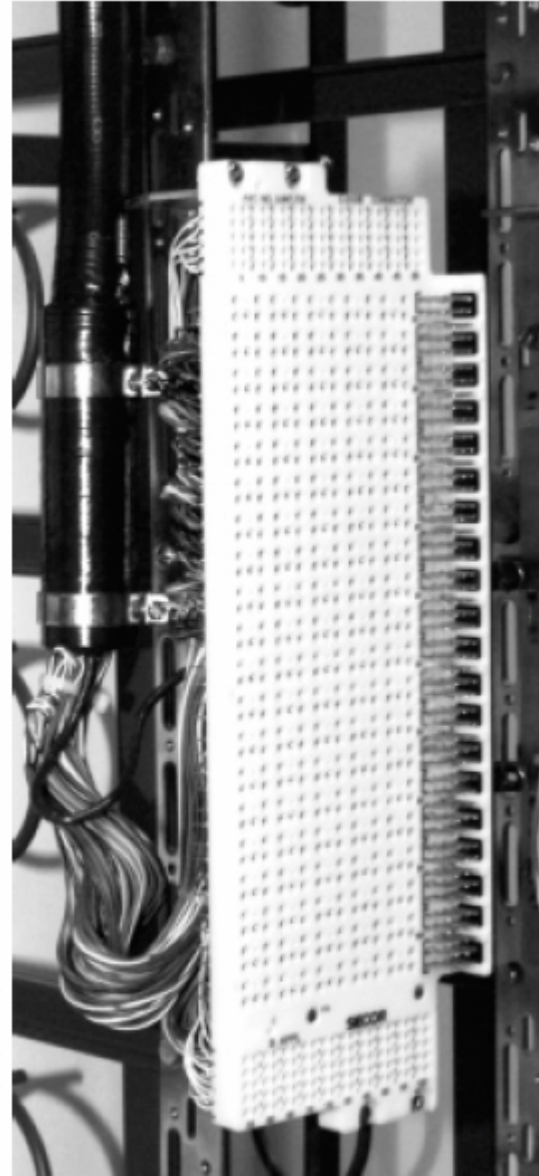

Figure 6 — Positioning Cable Stub
5.6 The clamps on the pressure plug of the connector stub should be carefully bent to the vertical mounting bar, so the stub cable will be out of the way for future work at the frame (Figure 6).
6.1 The cable stub may be turned 180 degrees (Figure 6). Handle the cable very carefully to avoid breaking wires. Be sure that enough clearance is available for the molded end of the cable stub above the top of the connector base before using this method.